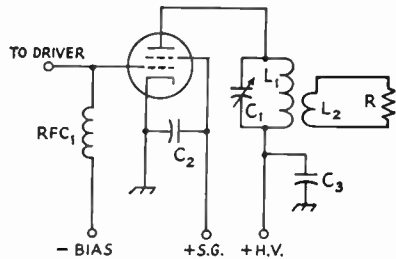

Fig. 6-10—Inductive-link output coupling circuits.
R.f. power amplifiers used in amateur transmitters are operated under Class-C or -AB conditions (see chapter on tube fundamentals). The main objective, of course, is to deliver as much fundamental power as possible into a load, R , without exceeding the tube ratings. The load resistance R may be in the form of a transmission line to an antenna, or the grid circuit of another amplifier. A further objective is to minimize the harmonic energy (always generated by a Class C amplifier) fed into the load circuit. In attaining these objectives, the Q of the tank circuit is of importance. When a load is coupled inductively, as in Fig. 6-10, the Q of the tank circuit
When the load R in Fig. 6-10 is located for convenience at some distance from the amplifier, or when maximum harmonic reduction is desired, it is advisable to feed the power to the load through a low-impedance coaxial cable. The shielded construction of the cable prevents radiation and makes it possible to install the line in any convenient manner without danger of unwanted coupling to other circuits.
- C_3 —Screen bypass. See Fig. 6-10.
- C_4 —Plate bypass. See Fig. 6-10.